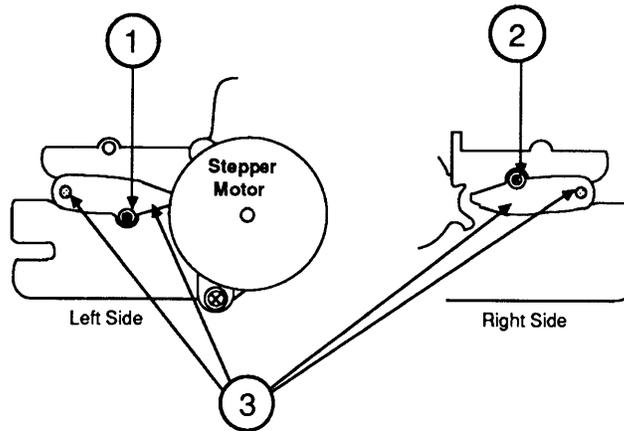

FIGURE 49
11. Turn the printer so the stepper motor is facing you and remove the screw (Figure 49, #1) that holds the tractor assembly to the metal frame.
12. Turn the printer to the right side and remove the screw (Figure 49, #2) that holds the tractor assembly to the frame.
13. Turn the printer so the rear is facing you. Hold the round rod and plastic end pieces (Figure 49, #3) of the tractor assembly and carefully pull straight toward you until the tractor assembly is free from the frame.